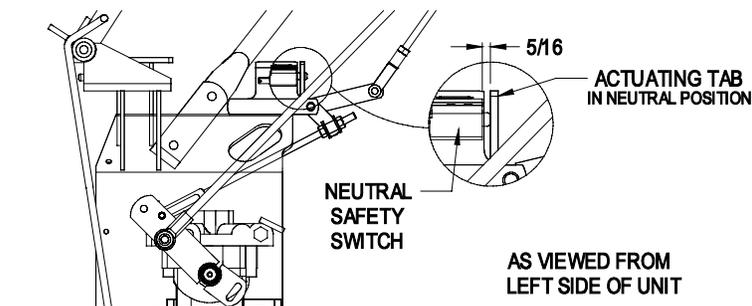

FIGURE 9
2. Move speed control lever (located on console) to the full forward position and check orientation of tabs on the ends of the speed control crank. See Figure 9. These tabs should be pointing straight down at the 6 o'clock position or slightly forward. Adjust threaded yoke at the bottom of speed control linkage until tabs are positioned correctly. See Figure 9.
3. Pull speed control lever back to neutral. Check that the neutral safety switch actuating tab has depressed the plunger of the switch so that there is about 5/16" between the tab and the switch. See Figure 9. If necessary, move the switch fore and aft.